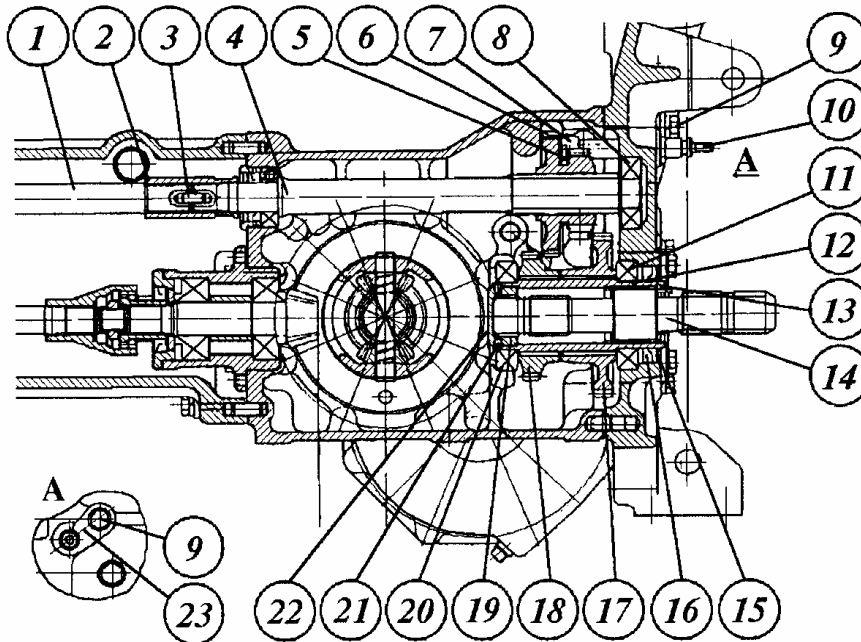

Fig. F-31 Rear power transmission shaft
10. REAR POWER TRANSMISSION SHAFT (Fig. F-31)